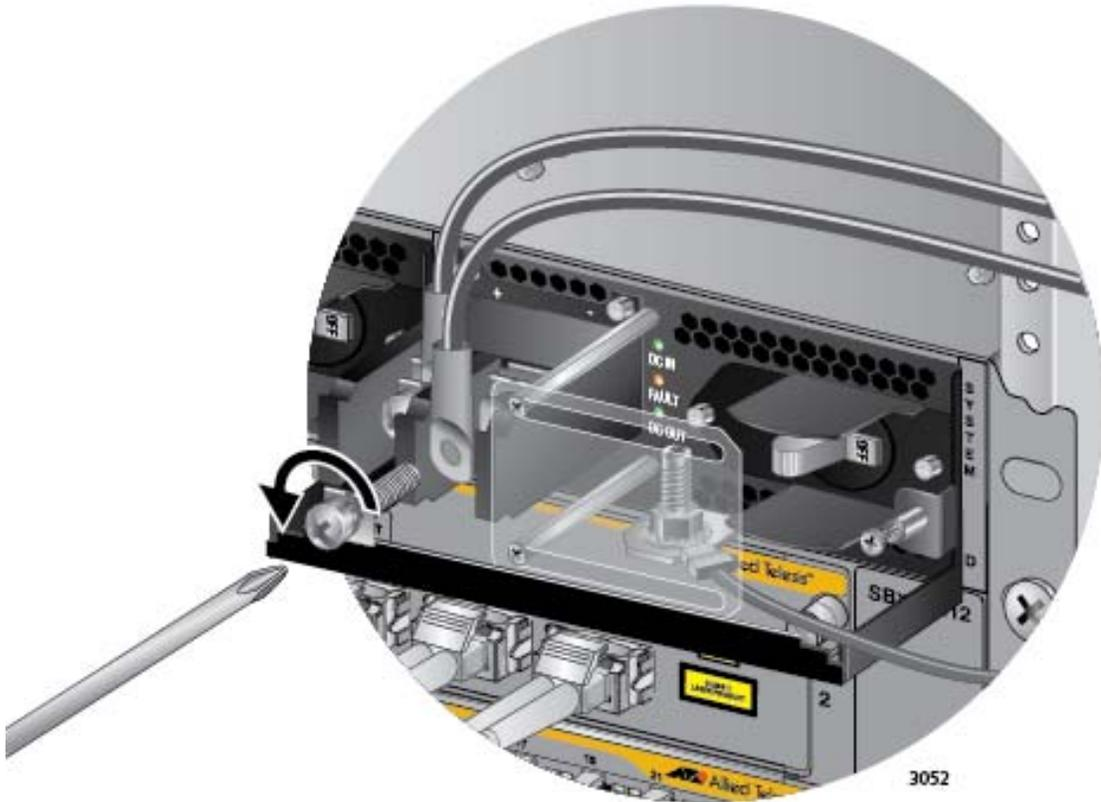

Figure 152. Removing the Negative Lead Wire
5. Use a #3 screwdriver to remove the negative (-) lead wire from the terminal block. The negative lead wire is on the right. Refer to Figure 152 on page 244.